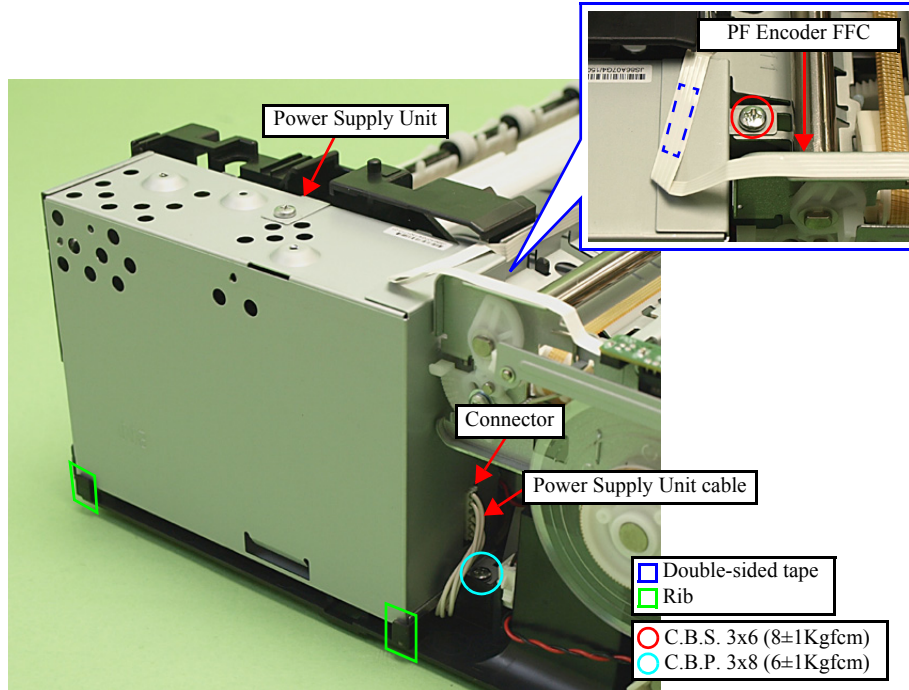

Figure 4-46. Removing the Power Supply Unit
1. Peel off the PF Encoder FFC from the Power Supply Unit. (See Fig. 4-46.)
2. Disconnect the Power Supply Unit cable from the connector of the Power Supply Unit. (See Fig. 4-46.)
- Install the Power Supply Unit inside the ribs (x2) of the Base Frame. (See Fig. 4-46.)
- Be careful not to damage the Power Supply Unit cable by catching it with the screw when screwing. (See Fig. 4-46.)
- Secure the PF Encoder FFC to the Power Supply Unit with double-sided tape. (See Fig. 4-46.)